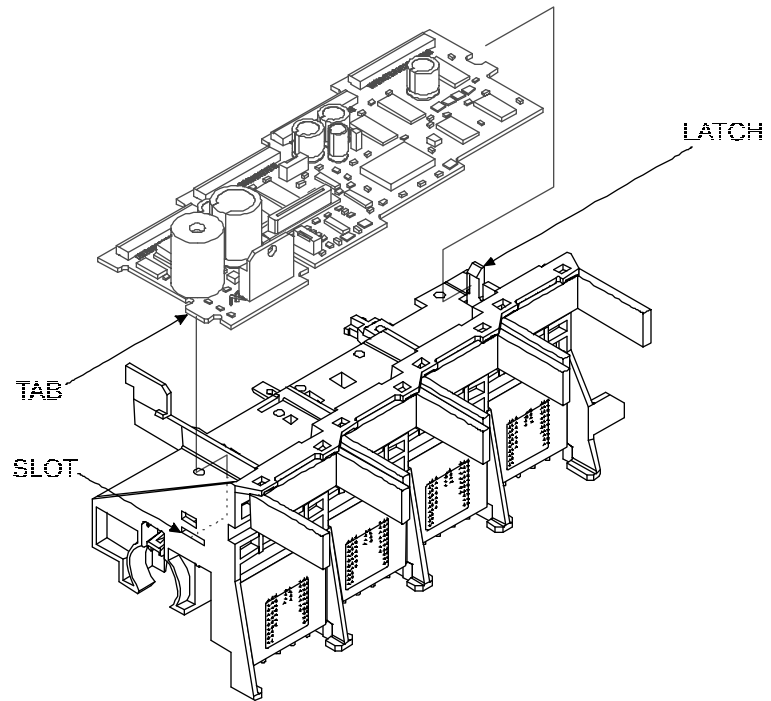

Figure 5-15. Carrier PCB Removal/Installation.
4. Unlock the latch on the right end of the Carrier Assembly and lift up the right end of the Carrier PCB. See Figure 5-15.
1. Put the tab on the left end of the Carrier PCB into the slot in the left side of the Carrier Assembly. See Figure 5-15.